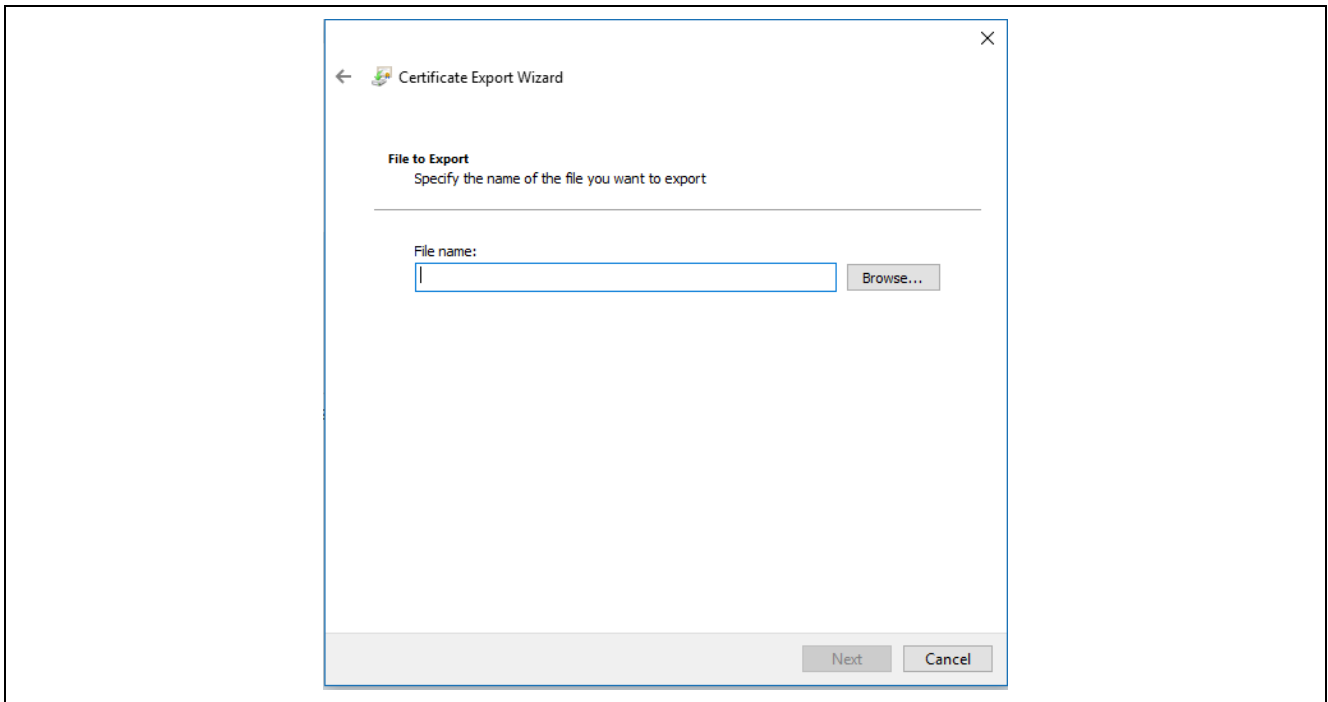

Figure 7-3 Enter a file name
**yyyyy** represents the CA List file name that created in previous section Figure 7-3 Enter a file name.